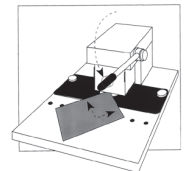

Fig. 6
- 3 - Position card against the angled guide and pull the operating lever down to cut one corner of the card. [Figure 6]